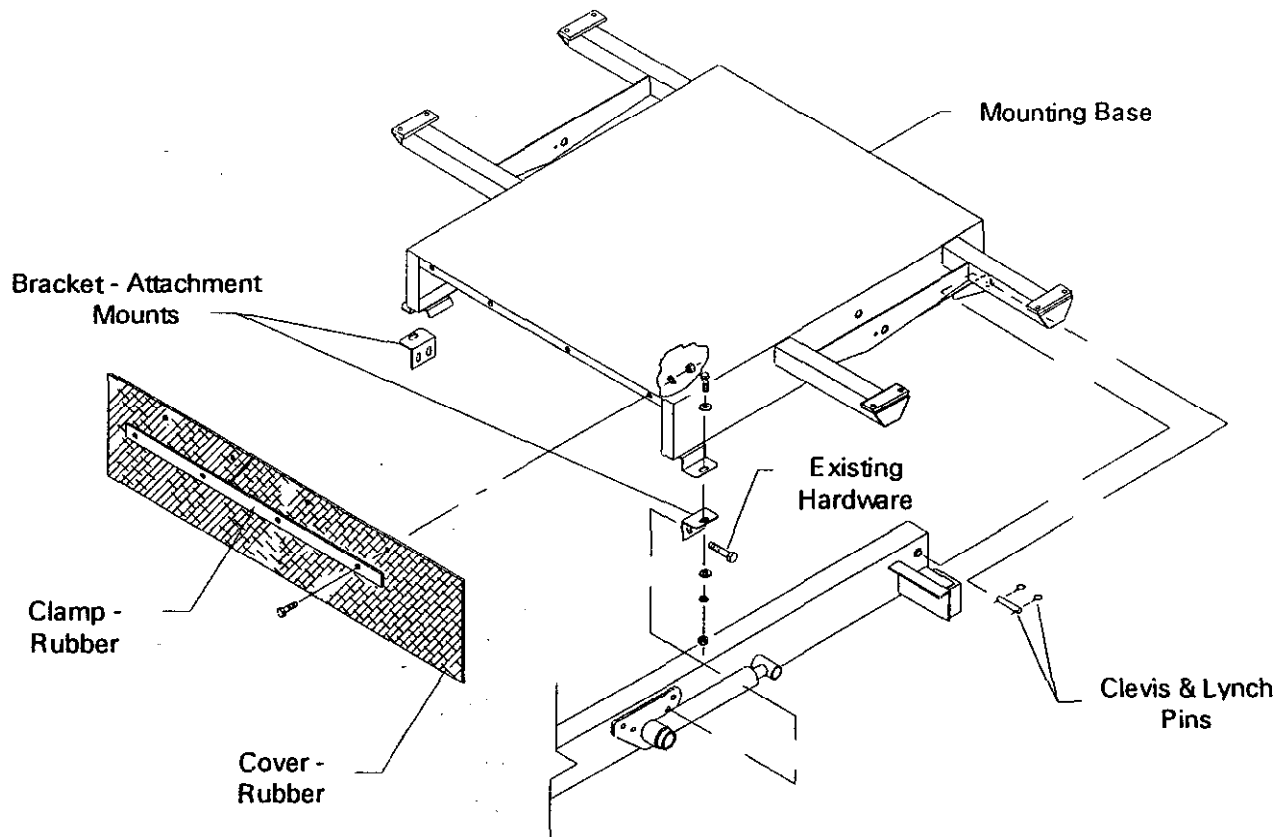

Figure 1
ATTACHING TOPDRESSER BASE TO WORKMAN (Fig. 1 & 1A)
1. Attach both Bracket Attachment Mounts (92-2667) to both sides of the Workman as shown in Fig. 1. Attach with bolts and nuts already in the frame but do not tighten.
2. Set the Mounting Base (92-4351) of the topdresser on the Workman as shown in Fig. 1 or 1A.
5. Attach the Rubber Cover to the front of the base using the Clamp-Rubber as shown in Fig. 1. Secure using the 1/4" x 1" bolts.